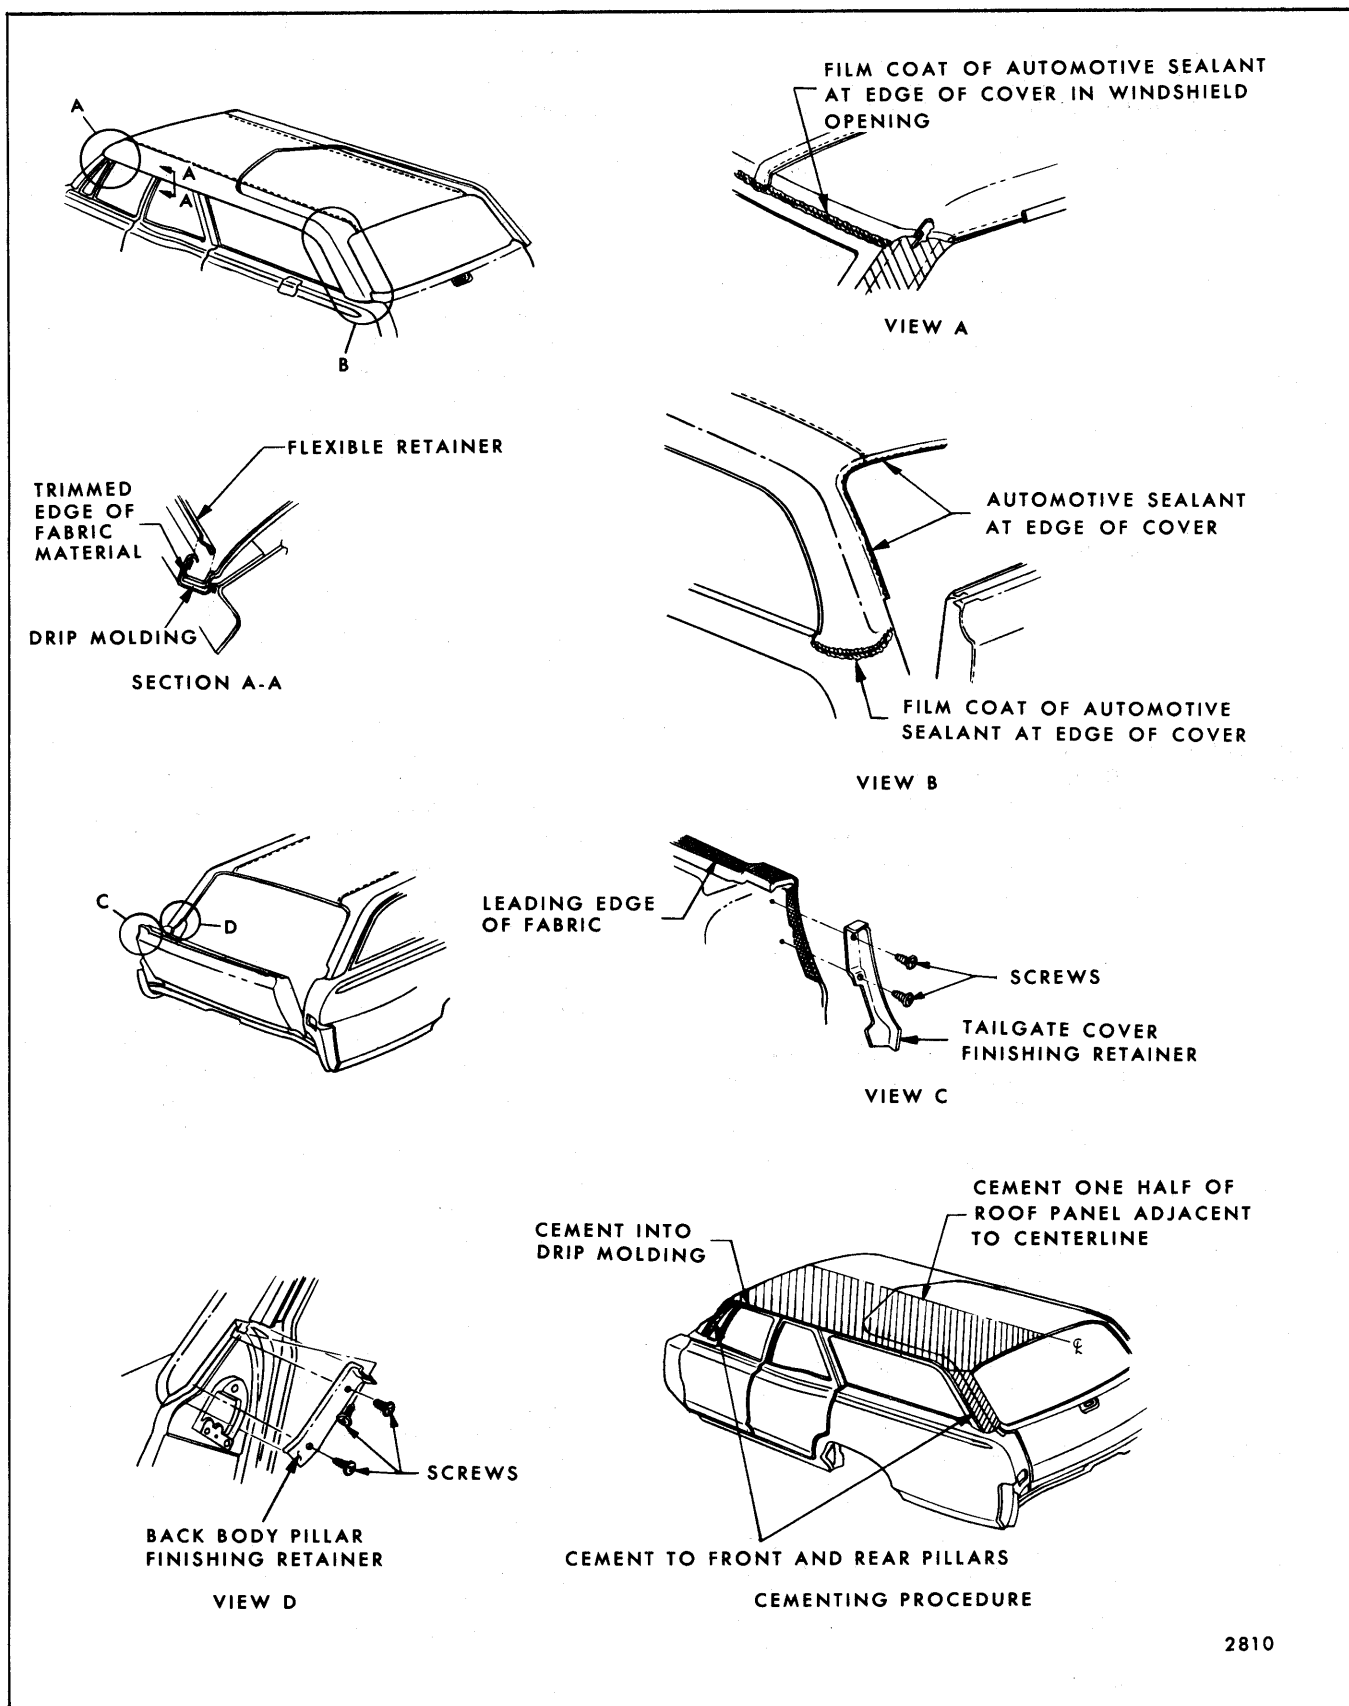

Fig. 12-9—Typical Fabric Roof Cover Installation on Station Wagon Styles
4. Remove flexible retainers and retainer clips securing fabric cover inside right and left drip moldings (See Section "AA" Fig. 12-9). The retainers may be removed by inserting tip of screwdriver or similar tool under retainer at front of drip molding. While exerting slight outward force on drip molding with pliers, disengage retainer from drip molding flange. **DO NOT DAMAGE DRIP MOLDING.**
17. Apply a film coat of silicone sealant such as Dow Corning Automotive Sealant, or General Electric RVP, or equivalent, to the edge of cover in windshield and back body opening and at belt area. Make certain edges of material around all reveal molding clips that were not removed are also sealed. (Views A & B, Fig. 12-9).
- f. Trim off excess material on tail gate flange (View "C", Fig. 12-9).